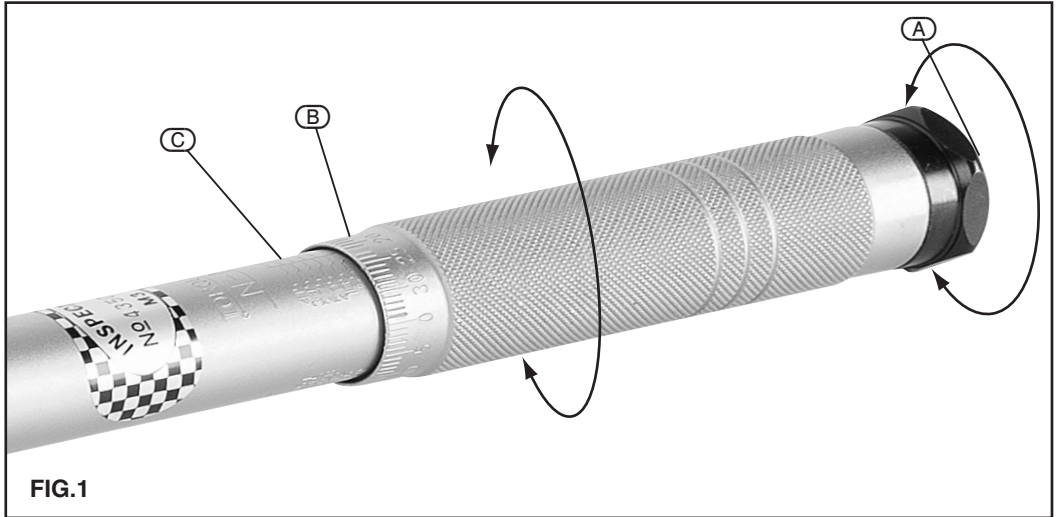

FIG.1
## 8.1 OPERATION INSTRUCTIONS - FIG. 1
1. Unlock handle (Fig.1) (Page 10).
4. Lock handle (Fig.1) (Page 10).